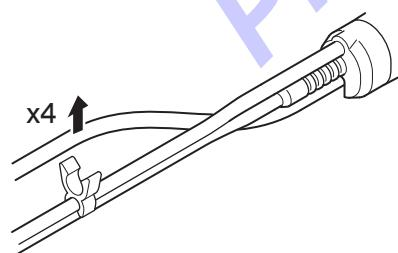

Figure 112 – Handpiece Cable and Tubing Separation
2. Separate the handpiece cable from the four handpiece cable clips (Figure 112).